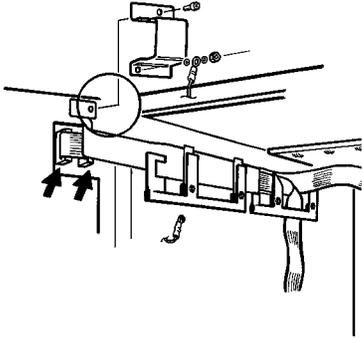

Figure 4.13.1a Earth lead and ribbon cable connectors
- Remove the earth lead and the cover (figure 4.13.1a), retaining the fixings for later re-assembly.